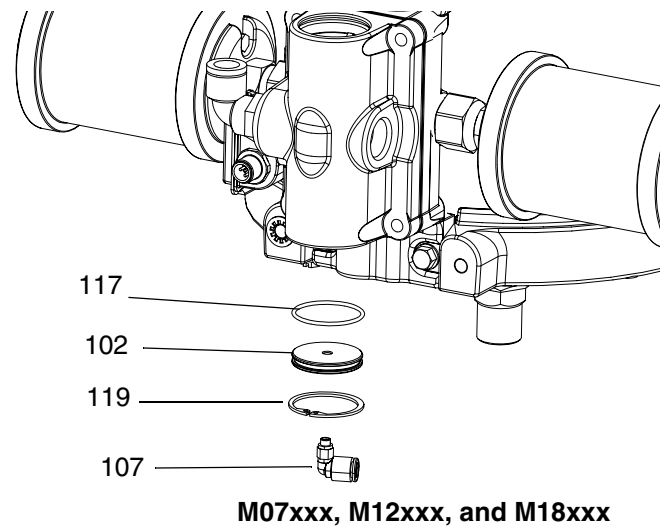

**FIG. 14: Install Bottom Air Valve Plug**
9. Install the bottom o-ring (116 or 117), air valve plug (101 and 102), snap ring (118 and 119), and elbow fitting (107) in the bottom of the valve body. Apply a liberal amount of the supplied lubricant to the o-rings before installation. Refer to FIG. 14 and FIG. 15.